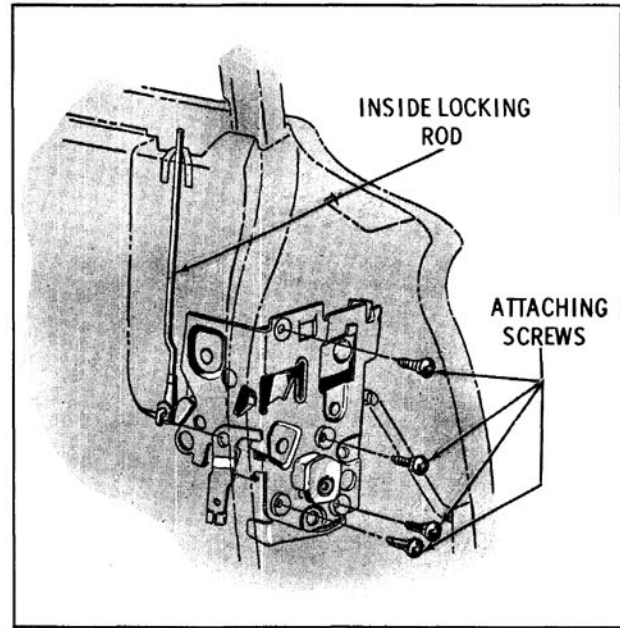

Fig. 16-61 Rear Door Lock Attachment
4. At lock pillar facing, remove door lock attaching screws and remove lock assembly through access hole. (Fig. 16-61)